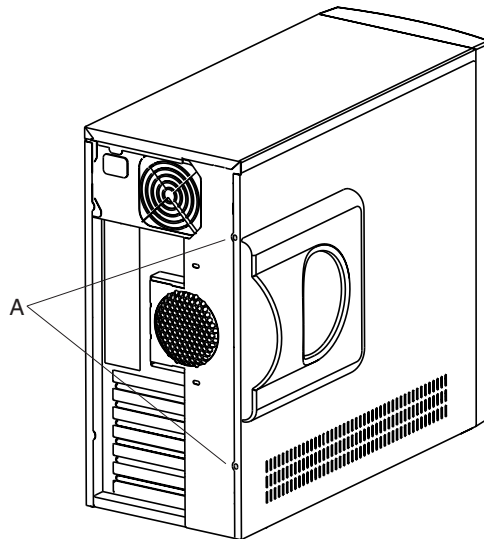

Figure 8. Removing the Side Cover
5. Remove the two screws that secure the side cover to the chassis frame. (See location A in Figure 8.)